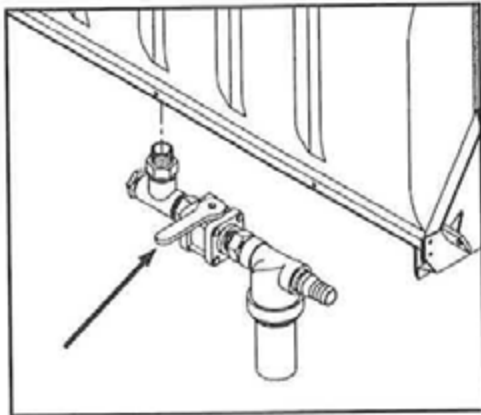
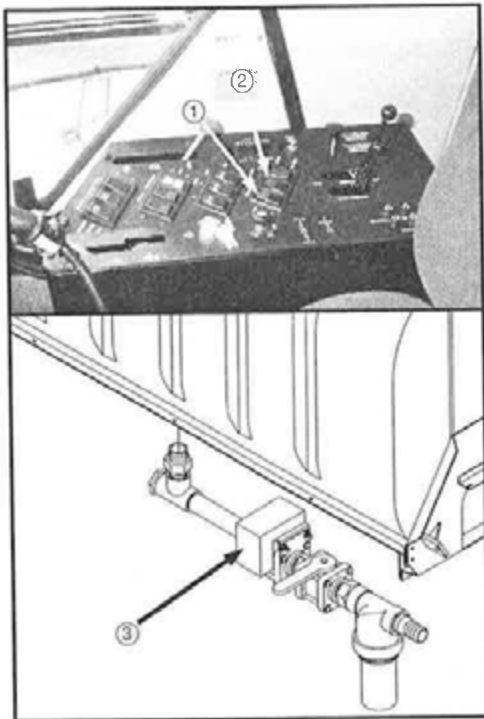

FIG 5.53
FIG 5.54
To shutoff either or both solution tank sumps, manually close either or both 1½" ball valve(s) located under each solution tank (fig. 5.53). Your sprayer may be equipped with optional 1½" electric tank shutoff valves (fig. 5.54, item 3).
To operate the electric tank shutoff valves, locate the solution tank switches in the console. To open or close the left solution tank, depress the "OPEN" or "CLOSED" side of the left switch (fig. 5.54, item 1). To open or close the right solution tank, depress the "OPEN" or "CLOSED" side of the right switch (fig. 5.54, item 2).